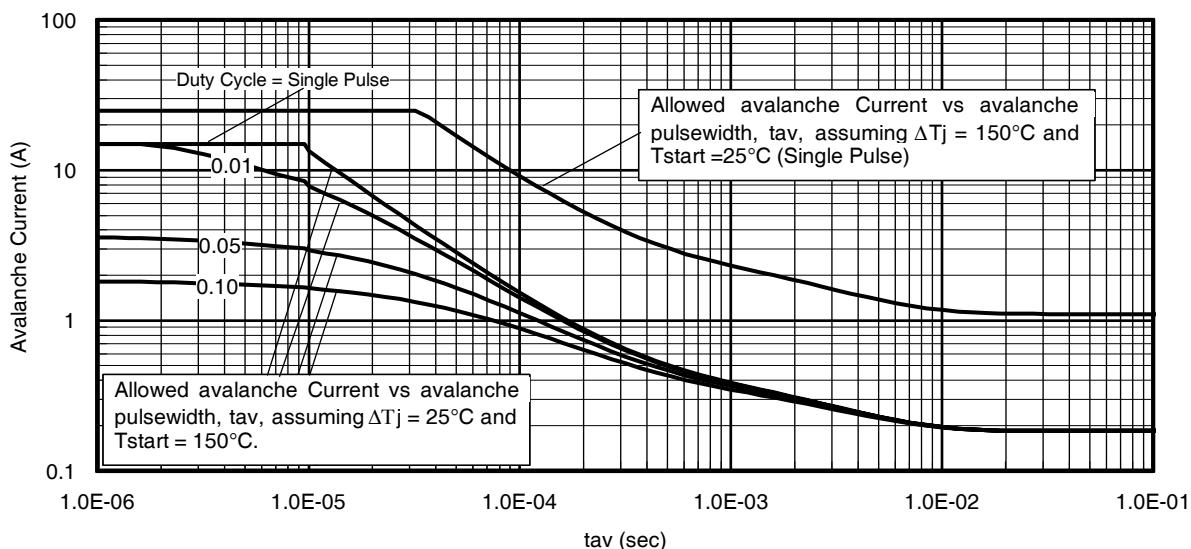

Fig 14. Typical Avalanche Current Vs. Pulsewidth
- ① Repetitive rating; pulse width limited by max. junction temperature.
② Starting $T_J = 25^\circ\text{C}$, $L = 1.00\text{mH}$, $R_G = 25\Omega$, $I_{\text{AS}} = 15\text{A}$.
③ Pulse width $\leq 400\mu\text{s}$; duty cycle $\leq 2\%$.
④ R_θ is measured at T_J of approximately 90°C .
⑤ Limited by T_{jmax} . See Figs. 14, 15, 17a, 17b for repetitive avalanche information.
⑥ When mounted on 1" square PCB (FR-4 or G-10 Material). For recommended footprint and soldering techniques refer to application note #AN-994.
Notes on Repetitive Avalanche Curves , Figures 14, 15:
7. ΔT = Allowable rise in junction temperature, not to exceed T_{jmax} (assumed as 25°C in Figure 14, 15).